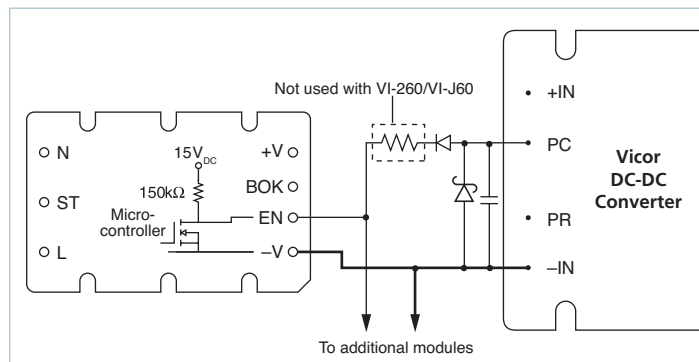

Figure 11 — Enable (EN) function; see Figure 8 for details
**Enable (EN) Pin:** (see Figure 11) The Enable pin must be connected to the GATE-IN or PC pin of all converter modules to disable the converters during power-up. Otherwise, the converters would attempt to start while the hold-up capacitors were being charged through an un-bypassed thermistor, preventing the bus voltage from reaching the thermistor bypass threshold thus disabling the power supply. The Enable output (the drain of an N channel MOSFET) is internally pulled up to 15V through a 150kΩ resistor.